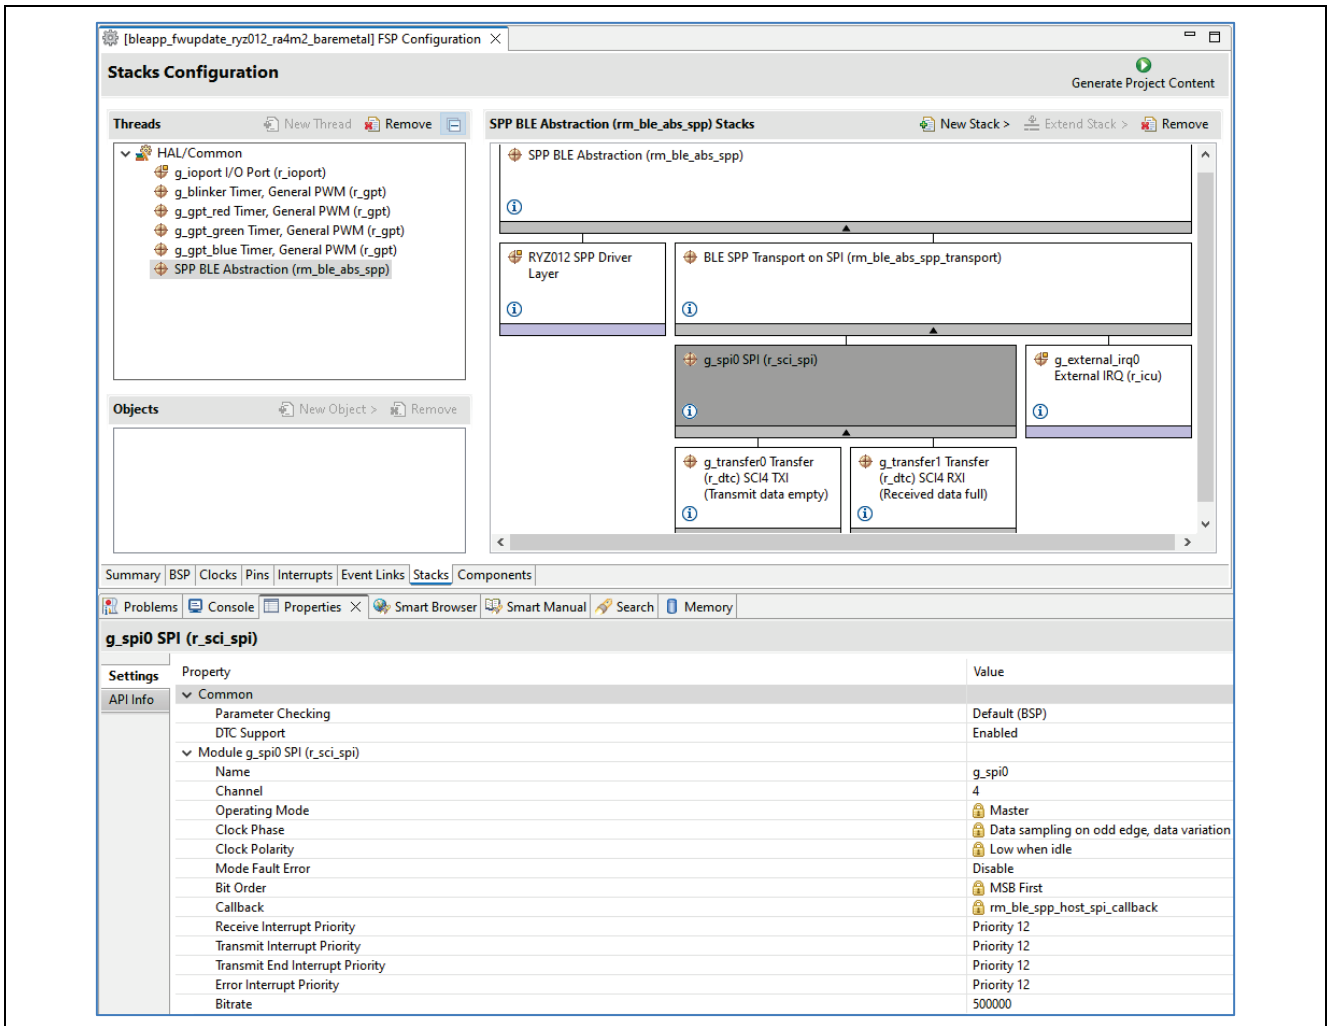
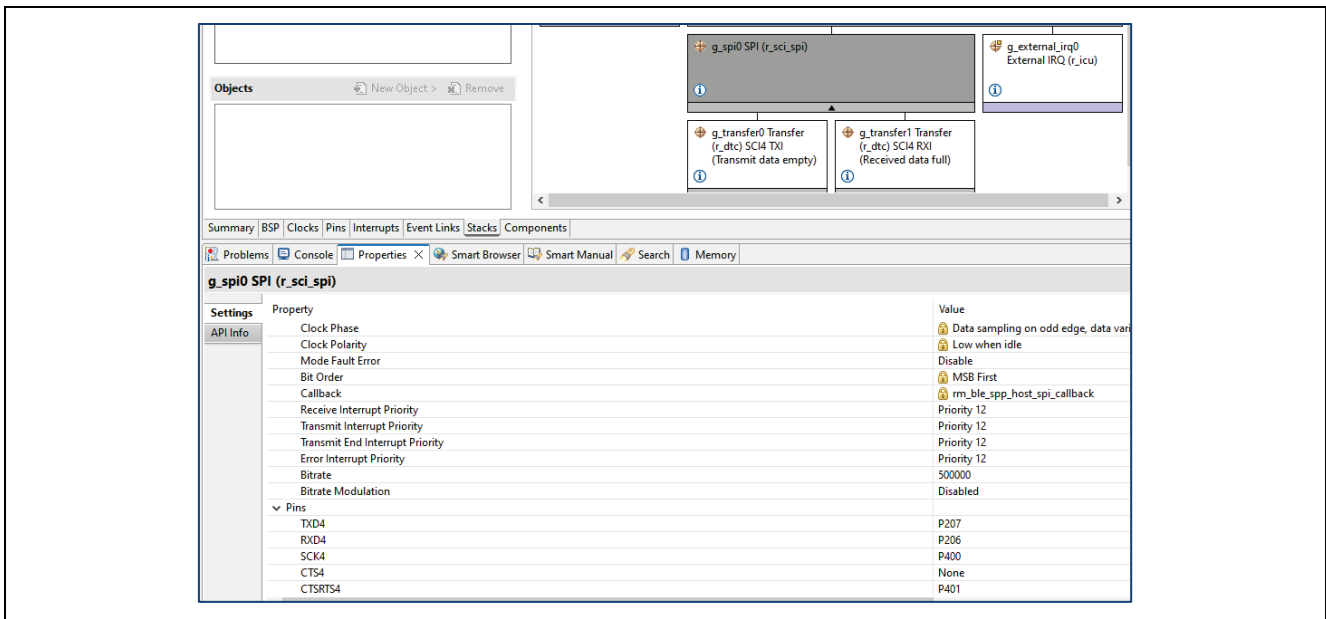
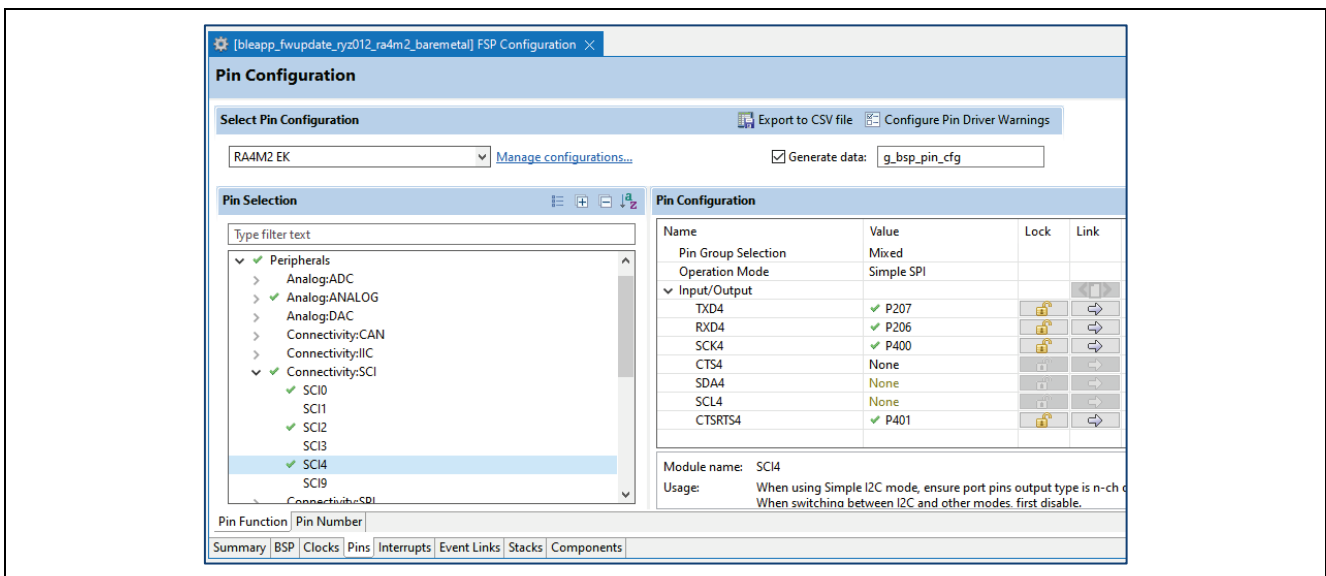

Figure 26. SPI Module Properties
Figure 27. SPI Module Properties – Pin Assignments
Figure 28. Pin Configuration > SCI
See Figure 26, SPI Module Properties. For the SPI configuration, it is necessary to specify which SCI channel to use. Match the SCI channel used and configure it as the SPI interface for PMOD1 in the **Pins Tab** see Figure 28, Pin Configuration > SCI to configure SPI Mode and Pins. Here SCI Channel 4 is being used
2. Change the following SPI Configuration Properties in the properties window as in Figure 26 and Figure 27.
3. Add the DTC driver (r\_dtc) to both transmit and receive. See Figure 26, SPI Module Properties, g\_transfer0 SCI4 TXI and g\_transfer1 SCI4 RXI for more details.
For the TXD\_MOSI and RXD\_MISO pin assignments, it is necessary to specify which SCI channel to use on the **Pins** tab. For the EK-RA4M2 with RYZ012 PMOD connected to PMOD1 (conn J26), SPI is assigned to SCI Channel 4 (SCI4) and the **Operation Mode** set to **Simple SPI**. The Input/Output Pins are assigned as specified in Figure 28, Pin Configuration > SCI. If your application uses a different RA MCU or PMOD connector then refer to the RA MCU Schematic to determine the Pin assignments for the PMOD connector.